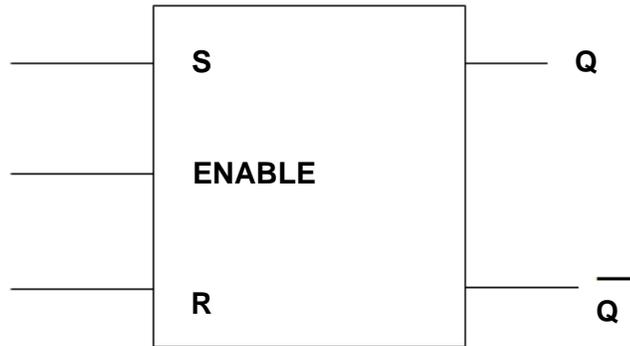

FIGURE 9.2 – BLOCK DIAGRAM OF A LOGIC LATCH
9.3 Identify and draw the truth table of the logic symbol shown in FIGURE 9.2.